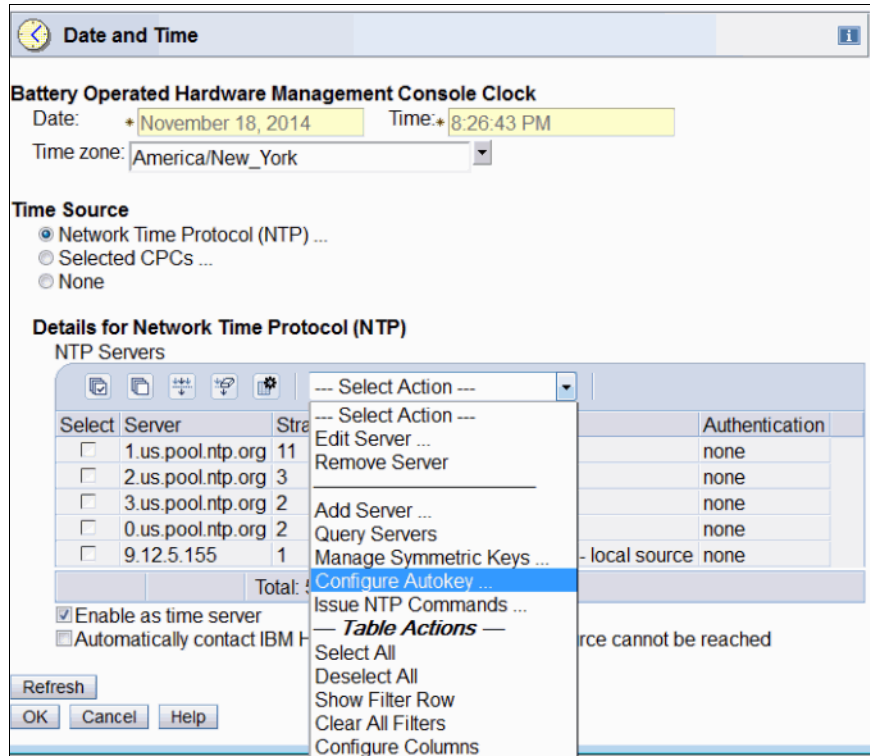

Figure 9-22 HMC: Customize Console Date and Time Configure Autokey
- Click **Select Action** → **Configure Autokey** under the Details for Network Time Protocol (NTP) section (Figure 9-22 on page 524).